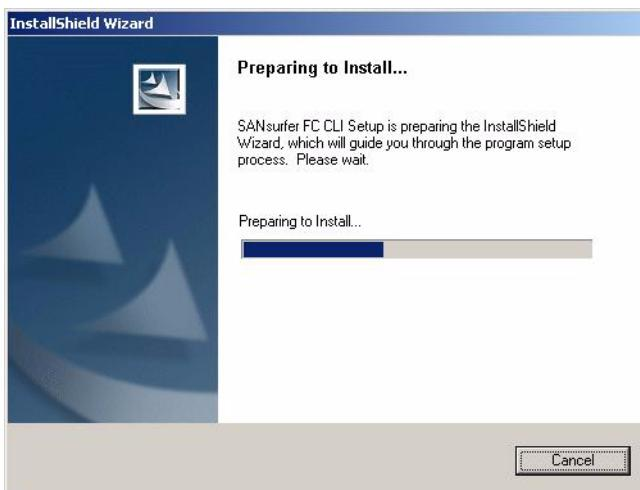

Figure 3-1 Preparing to Install Dialog Box
1. Locate and double-click the installer package. The **Preparing to Install** dialog box appears, as shown in Figure 3-1. The status bar indicates that the installation package is loading.